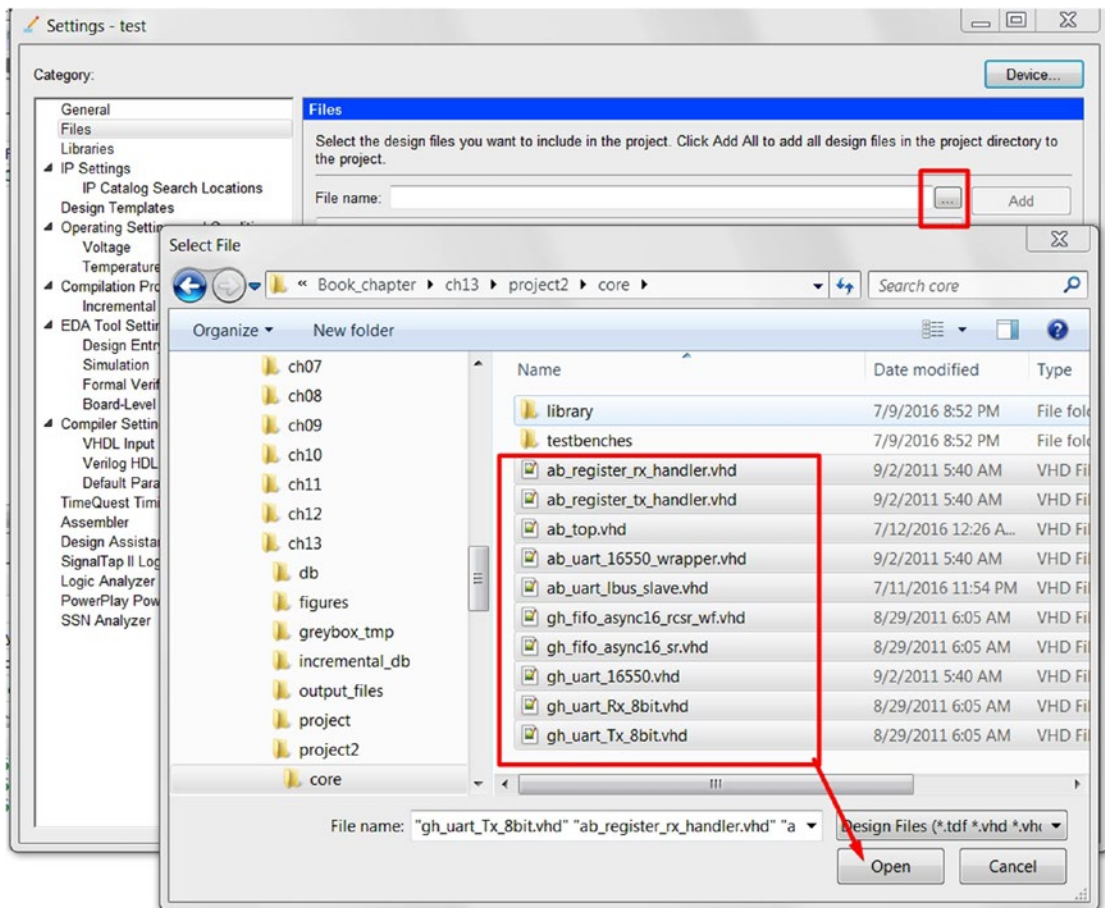
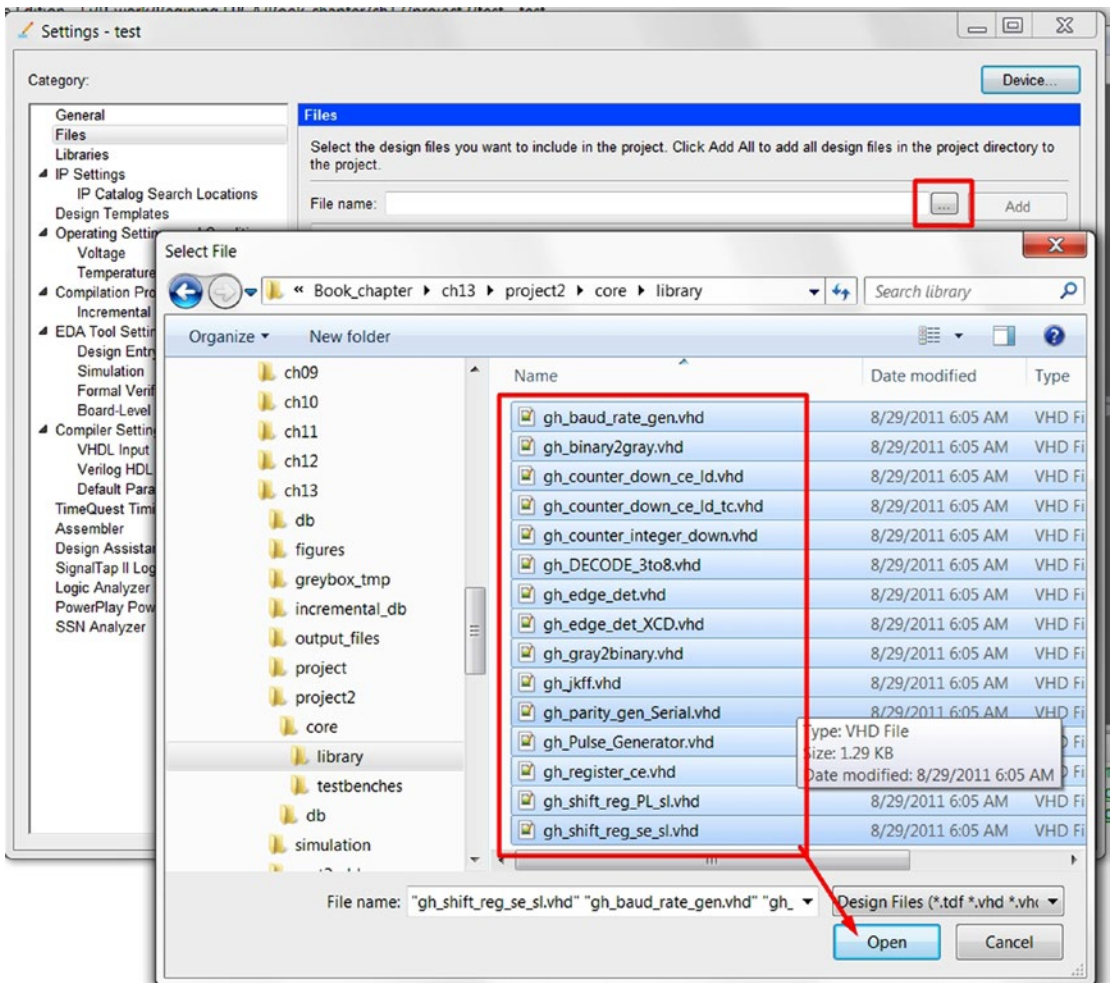

Figure 13-24. File list of UART 1650 IP core
Figure 13-25. File list of UART 1650 IP library
1. Project ► Add / Remove Files in the project and add all of the files from the uart_16660_wrapper IP (under the core Figure 13-24 and core/library Figure 13-25)